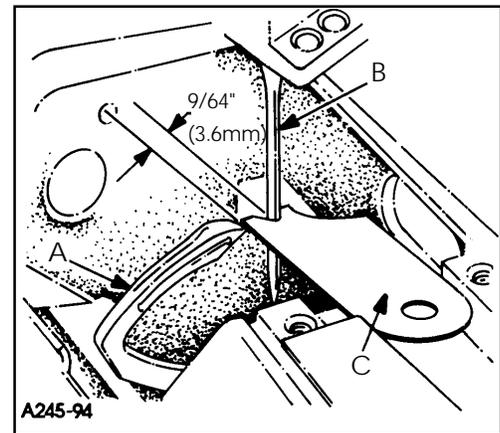
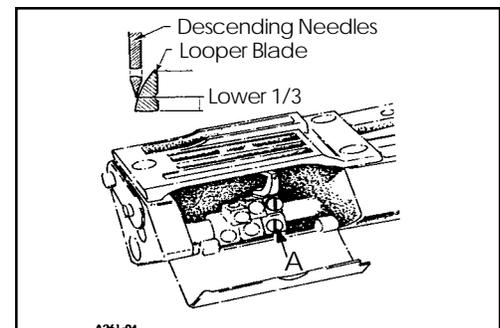

FIG. 6
FIG. 7
Insert a new set of needles, type and size specified. Always adjust the looper (A, Fig. 6) for the left needle first. Set the looper so that the distance from the center of the needle (B) to the point of the looper (A) is 9/64" (3.6mm) when the looper is at its farthest position to the left. Looper gauge (C) No. 21225-9/64 can be used advantageously in making this adjustment. If adjustment is required, loosen screw (A, Fig. 7) in looper holder, permitting movement in either direction to attain the 9/64" (3.6mm) dimension as shown in Fig. 6. Retighten screw (A, Fig. 7). Repeat for other needles and loopers.
Rotate handwheel in operating direction to assure that the looper point passes to the rear of the needle to touch but not to deflect the needle. This adjustment can be made by loosening screw (A, Fig. 7) in looper holder. Looper holder can be moved front to back to attain looper to needle setting. Always check the 9/64" (3.6mm) looper gauge setting after setting the looper to the back of the needle, and conversely, always check the setting of the looper to the back of the needle after setting the 9/64" (3.6mm) looper gauge.
The amount of looper avoid has been set at the factory to .110" (2.8mm). If it becomes necessary to adjust the amount of avoid it is recommended as a starting point, to have the points of the descending needles contact the back of the lower 1/3 of the back of the looper blade. (See Fig. 7).